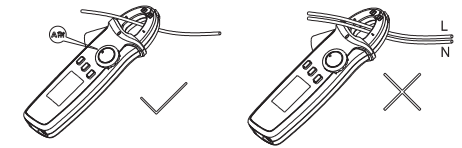
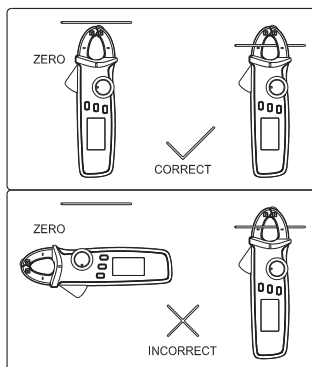

Figure 5
Figure 6
- AC/DC current measurement (Figure5, Figure6)